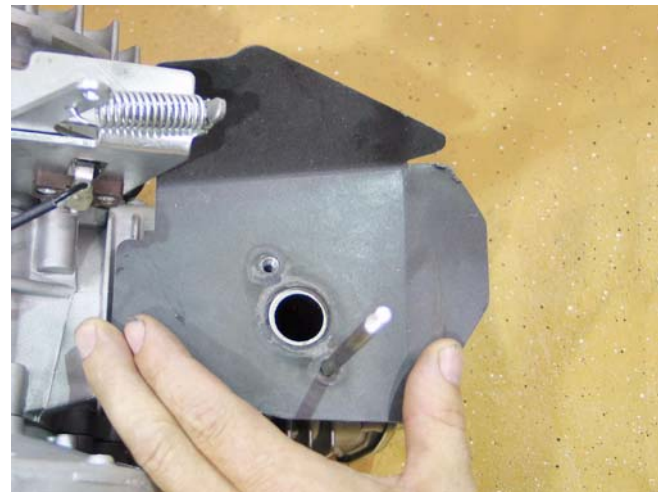

Figure 8.3
**NOTE:** The muffler gasket extends well beyond the port, to act as a heat shield and guides cooling air between the muffler and the cylinder. See Figure 8.3.